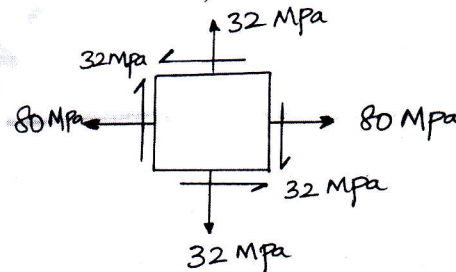

Fig Q3(b)
b. At a certain point in a strained material the values of normal stresses across two planes at right angle to each other are 80MPa and 32MPa both tensile and there is a shear stress of 32MPa clockwise on the plane carrying 80MPa stresses across the planes as shown in Fig Q3(b). Determine :